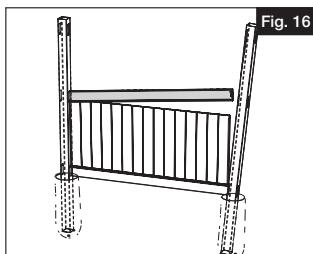

Fig. 16
- a. Insert the middle rail into middle post route holes of first post only (Fig. 16).